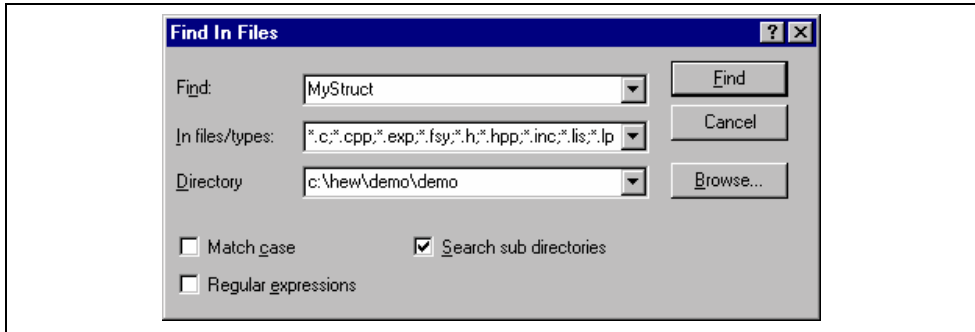

Figure 4.3: Find in Files Dialog
1. Select **[Edit->Find in Files...]**, select **[Find in Files...]** from the editor window's local menu or click the find in files toolbar button . The "Find in Files" dialog box will be displayed (figure 4.3).